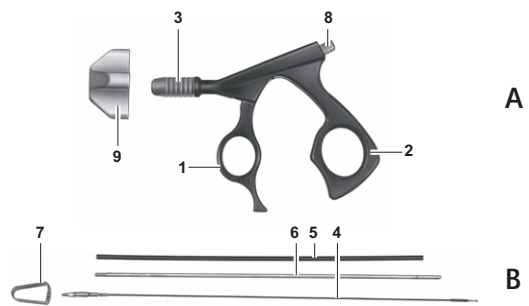

Fig. 1
- ▶ Detach inner tube 6 from working insert 4, see Fig. 1.